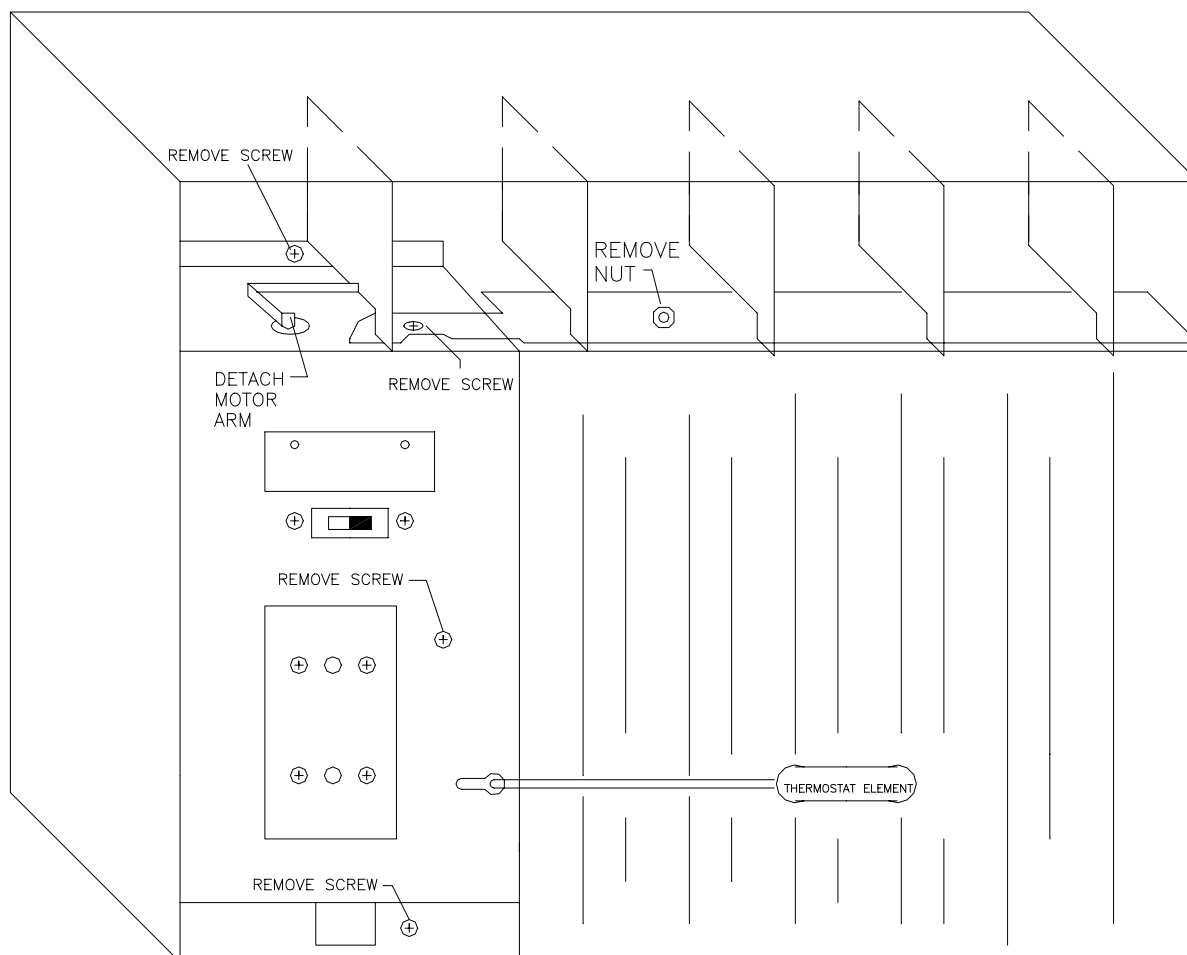

Figure 3-22 ECU with Front Cover Panel and Air Filter Removed
2. Remove the plastic front cover and air filter from the ECU as shown in Figure 3-22.